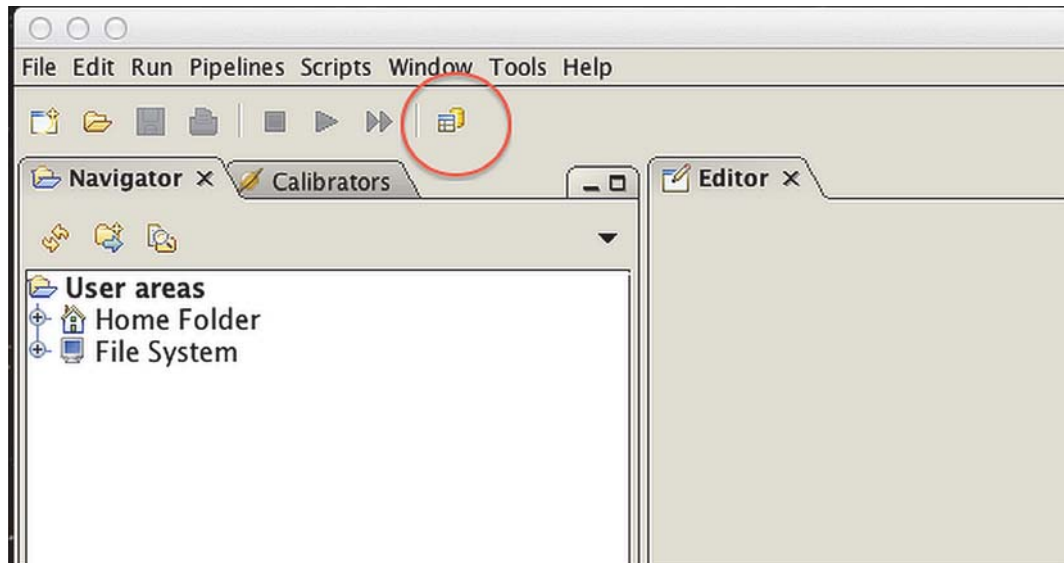

Figure 1.2. Herschel Science Archive User Interface from button
- You can also access the Herschel Science Archive by selecting (left-click) the HSA User Interface button (see Figure 1.2).